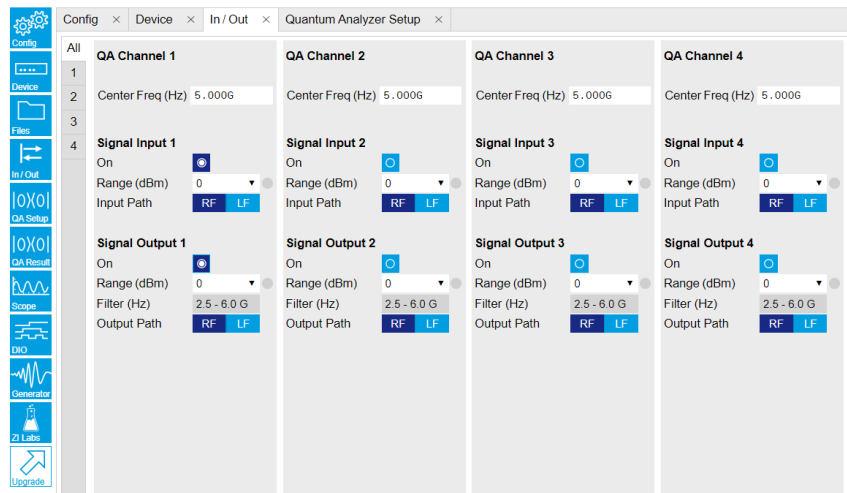

Figure 4.23: Configurations on In/Out Tab.
- Configure these parameters on the Input and Output Tab as in Figure 4.23 and in Table 4.13.